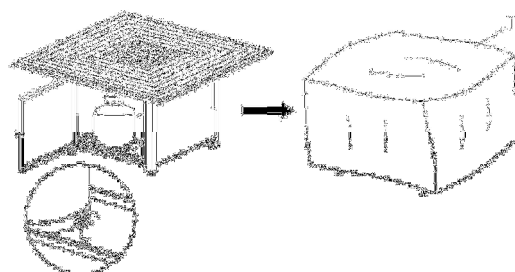

Figure 8
9. Open the door, place the 20-pound cylinder into the main body and tighten it as shown on the right, so the gas cylinder cannot move and fall down, close the door, cover the fire pit with PVC cover (T) when not in use to protect it from the elements or when fire pit is cool COMPLETELY after the use,(see figure 8).